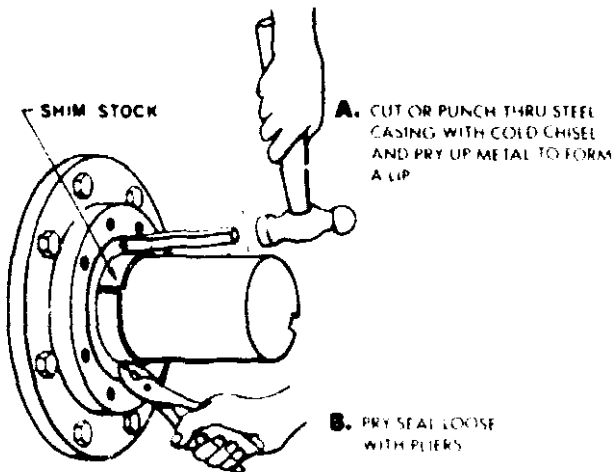

Figure 8
- A. Cut through the steel casing of the seal in two places 180° apart with a small cold chisel and pry up the metal to form a lip. Grasp the lip, alternately with pliers and remove seal, Figure 8.